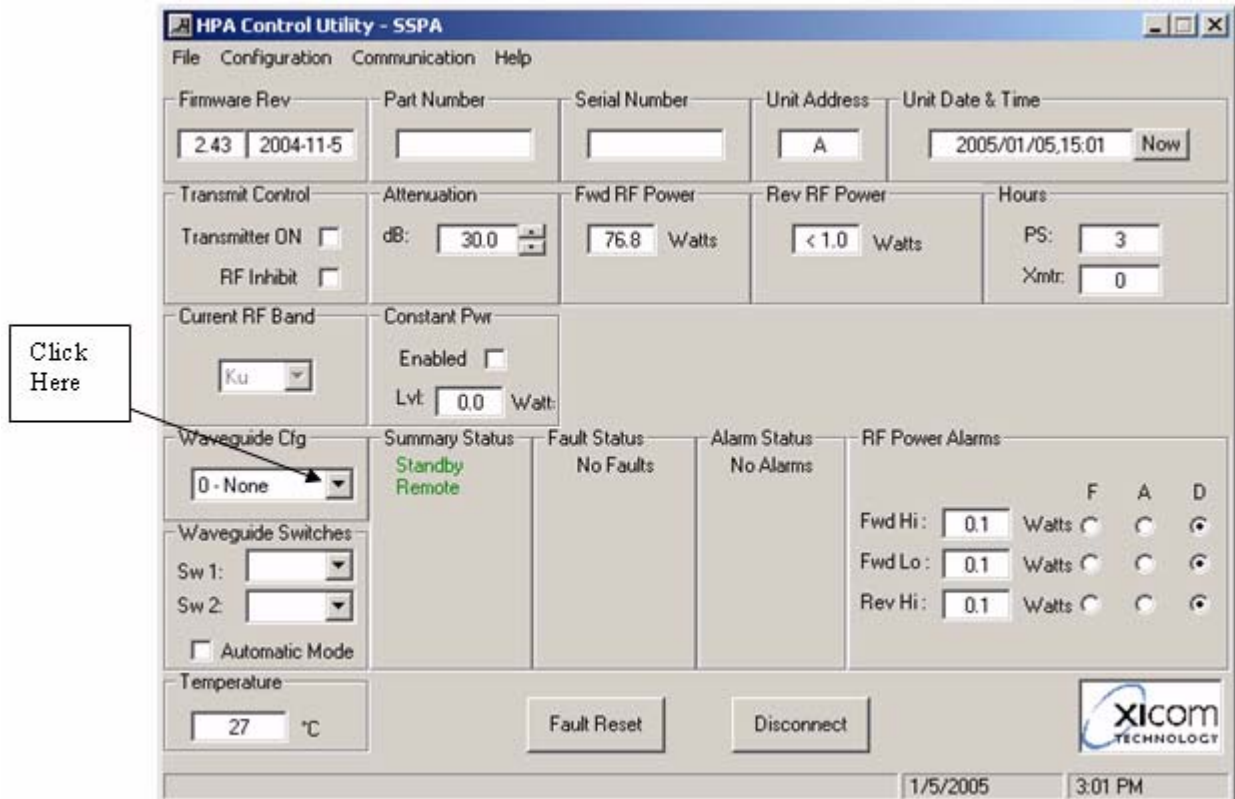

Figure 32, Select Waveguide Configuration
- Refer to Figure 32. Set the Waveguide Configuration by clicking on the down-arrow and select one of the four options from the drop-down menu. The “1-For-1” option is the most common.